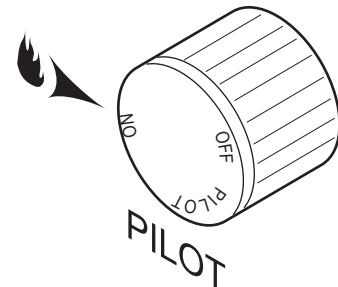

**Figure 56 -
Depress and turn the knob counterclockwise ↺ to the “ON” position. *Figure 56*. It will take less than four (4) seconds for the burner to ignite.